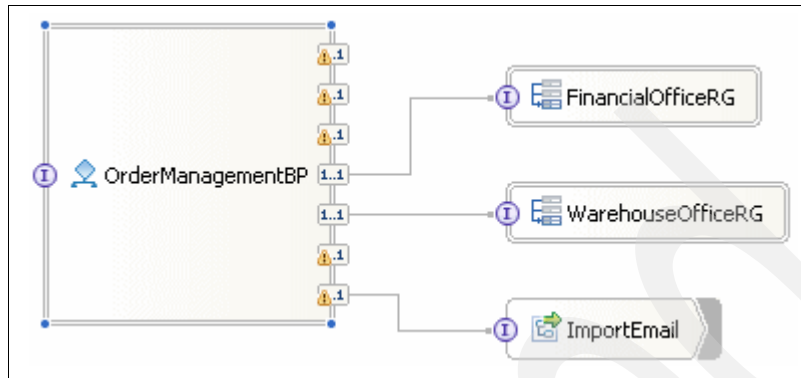

Figure 3-249 OrderManagement assembly diagram wired to e-mail import
- e. Fix the assembly diagram's error by right-clicking **ImportEmail** and selecting **Wire to Existing** as shown in Figure 3-249.